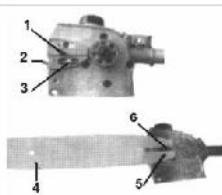

Fig.PP3
2. Place the guide bar over the guide bar adjustment stud on the cutting head assembly. Align the chain tensioning pin with the hole in the guide bar. See Fig.PP3